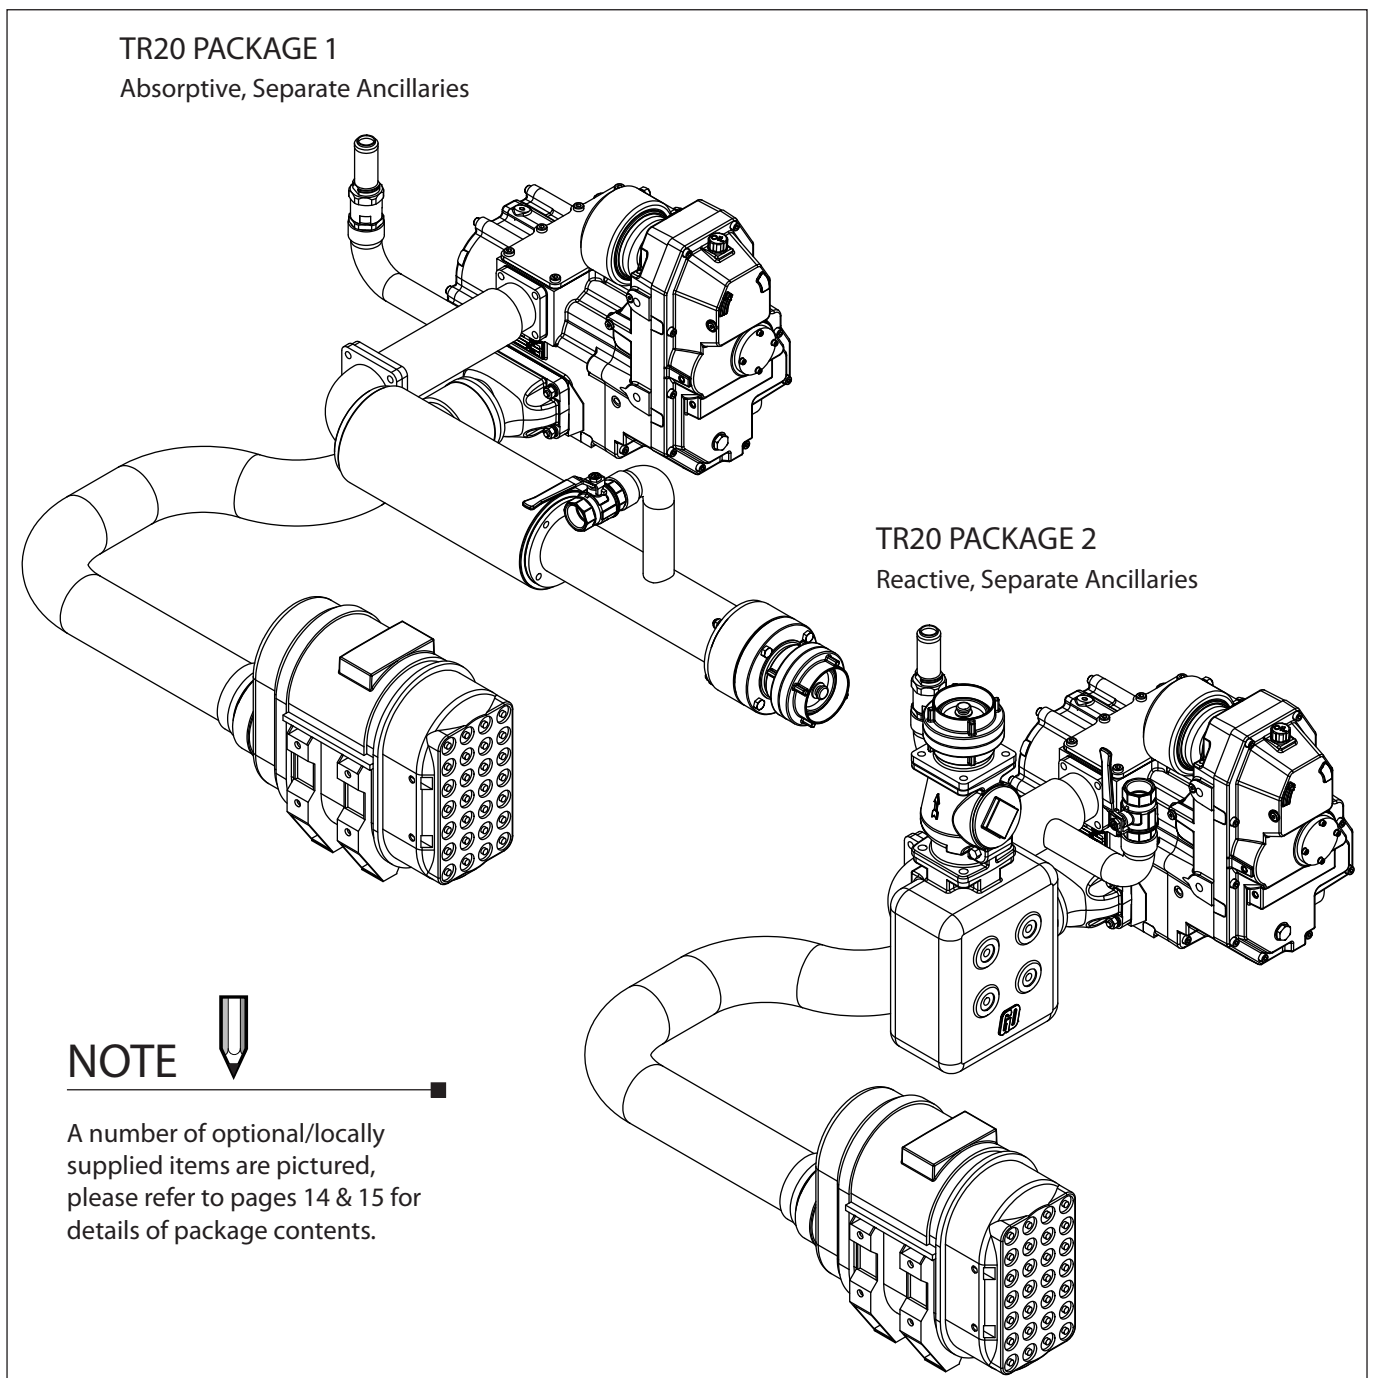

Figure 1. Standard Packages (1 & 2)
2.3 Available packages - see fig 1
For the recommended layout of the machine and ancillaries, see figure 1.